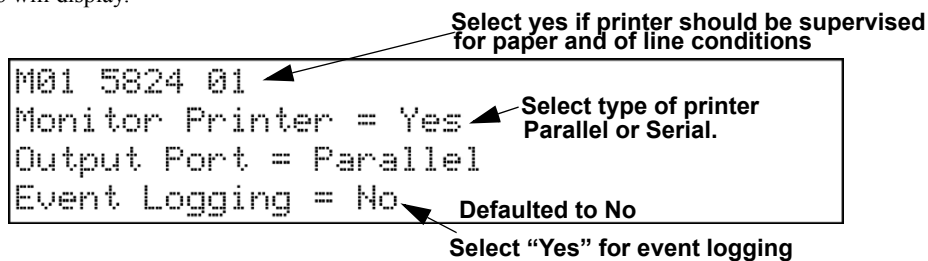

Figure 4.36 Selecting Printer and Output Port Options
- Press right arrow twice to skip over the Enter Module ID and Enter Module Name options. A screen similar to the one shown in Figure 4.36 will display.